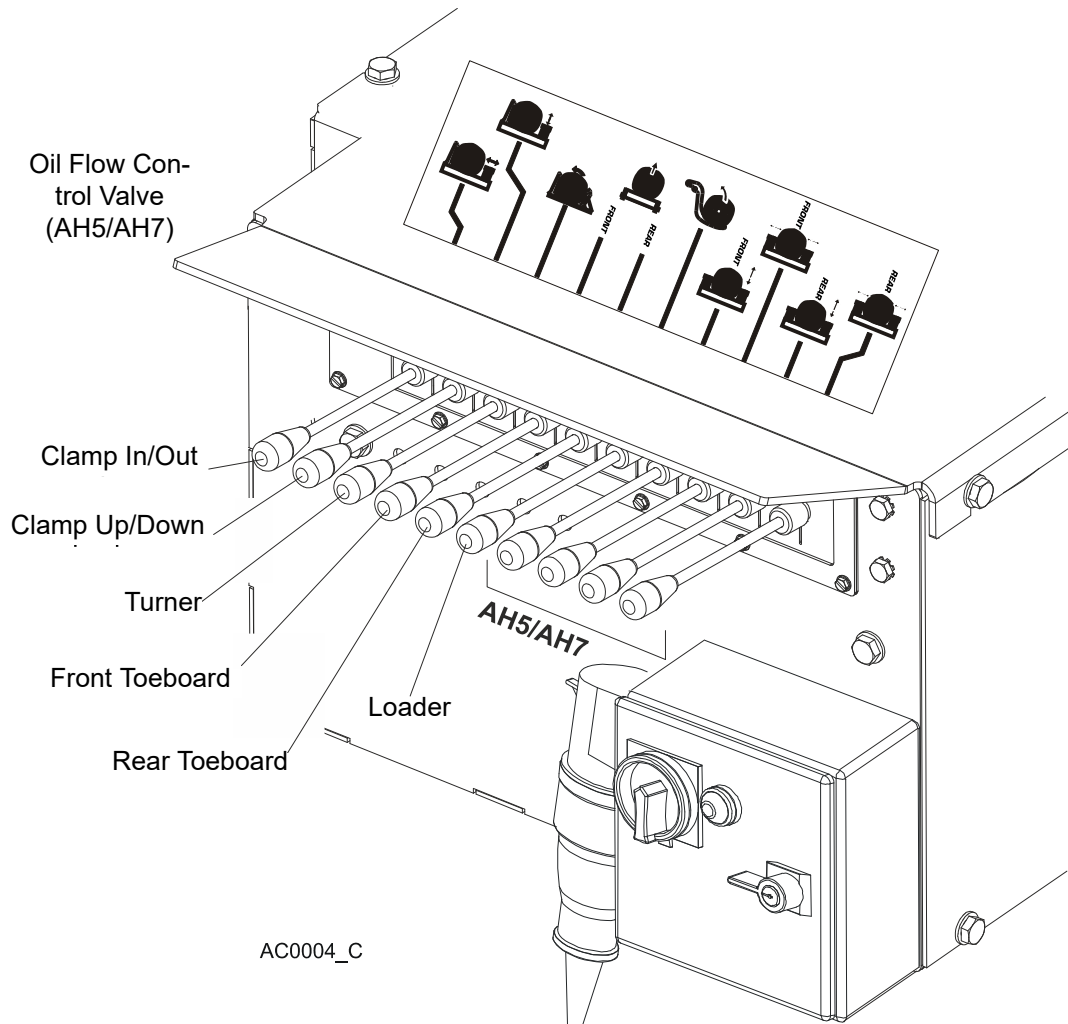

FIG. 2-23.
**See Figure 2-23.** A/DH3 Hydraulic units have six control levers to load, clamp, turn and level logs. A/DH5 and A/DH7 hydraulic units have four additional levers for controlling the Pull-Down clamps. In